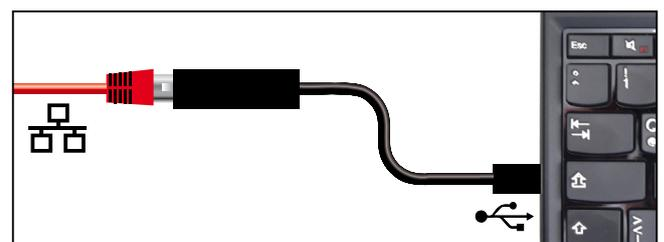

Fig. 6 Converter USB to Ethernet
- ▶ USB to Ethernet converter (Fig. 6). Makes it possible to connect the appliance's network interface (see page 12) to the USB port of a computer / laptop.